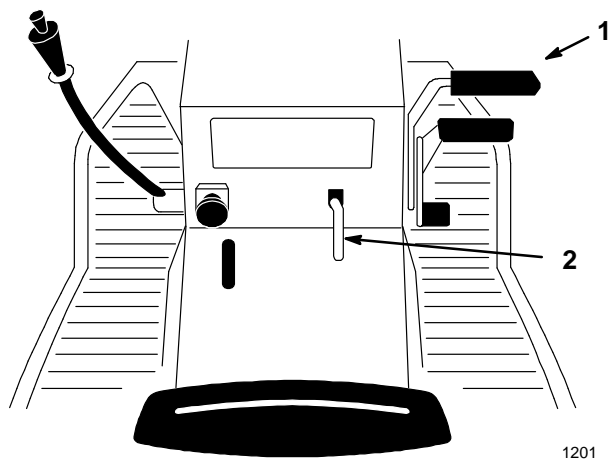

Figure 3
1. Push the brake pedal (Fig. 3) down and hold it in the depressed position.
2. Lift the parking brake lever (Fig. 3) up and gradually take your foot off the brake pedal. The brake pedal should stay in the depressed (locked) position.
1. Push down on the brake pedal (Fig. 3). The parking brake lever should release.